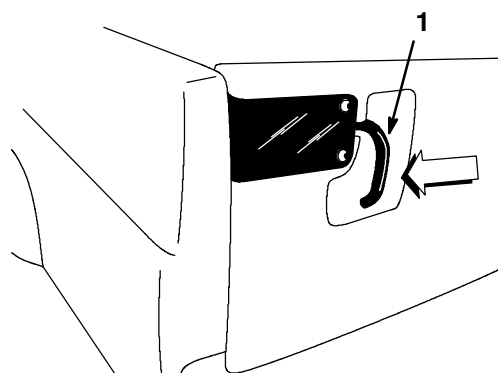

Figure 20
1. To open the tailgate latches, push the latches toward the outside of the vehicle (Fig. 20).